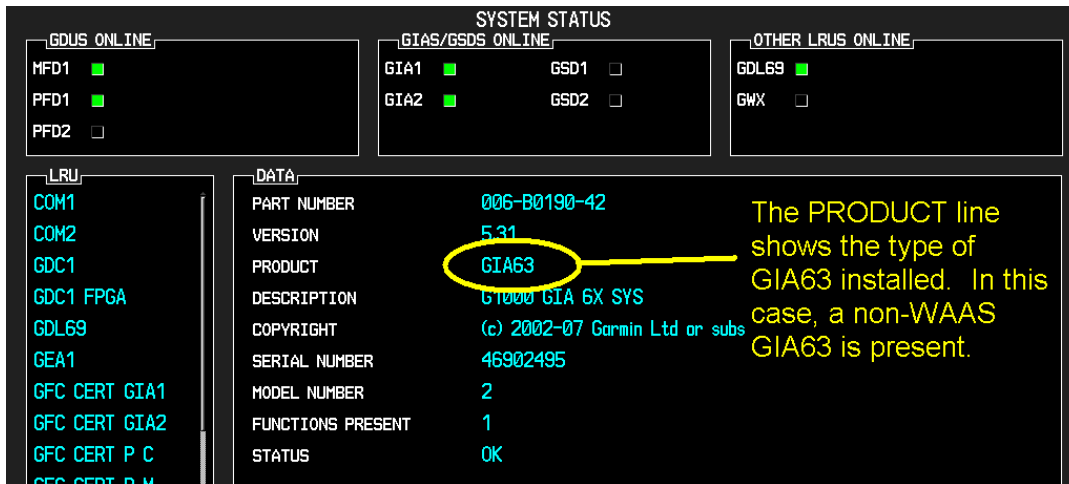

Figure 7-1. Non-WAAS (GIA 63) System Status Page
- **Verify the presence or non-presence of GIA63 WAAS units to help you choose the correct software to load (see Figures 7-1 and 7-2).** Loading WAAS software into a non-WAAS unit or vice-versa may make the unit inoperable. Unit repairs due to loading the wrong software is not covered under warranty.